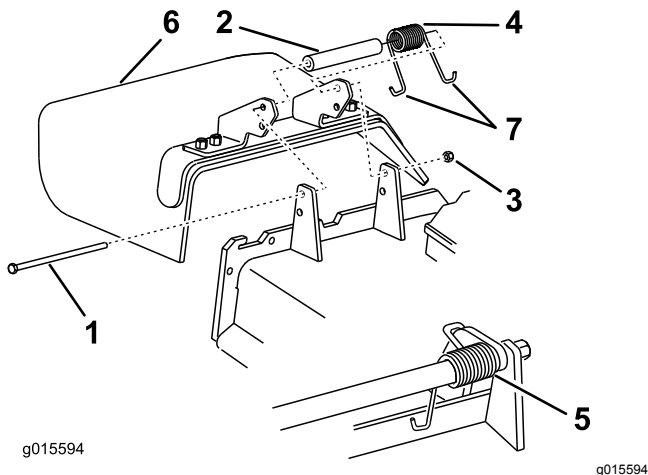

Figure 109
1. Remove the locknut, the bolt, the spring, and the spacer holding the deflector to the pivot brackets (Figure 109).
2. Remove the damaged or worn grass deflector (Figure 109).
**Note:** Make sure that the J-end of the spring is installed behind the deck edge before installing the bolt as shown in Figure 109.
6. Place the J-hook end of the spring around the grass deflector (Figure 109).